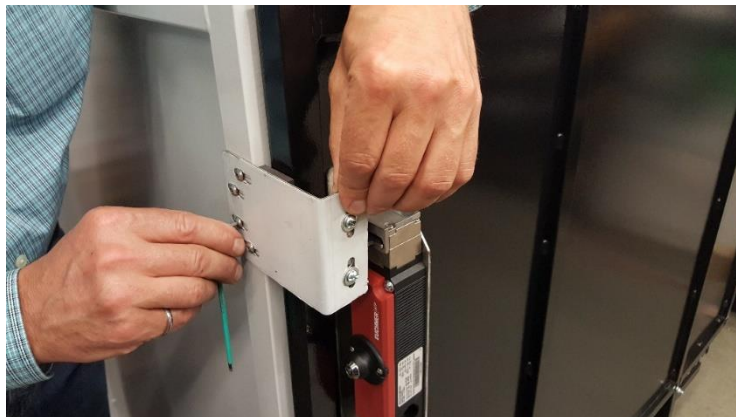

Figure 10
8. Adjust the horizontal position of the lock tab within the interlock and then tighten horizontal adjustment bolts – ref. figure 10